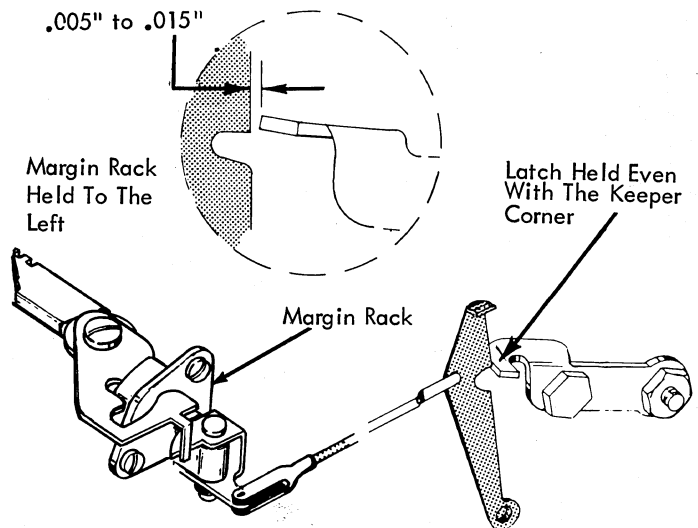

FIGURE 147. Clutch Unlatching Adjustment
7. Clutch Unlatching - With either style margin rack held to its extreme left position, the carrier return latch keeper should clear the latch by .005" to .015" at the unlatching point (Fig. 147). Check by manually holding the latch at the unlatching point while the machine is idling. Lengthen or shorten the carrier return unlatching link to obtain this clearance.